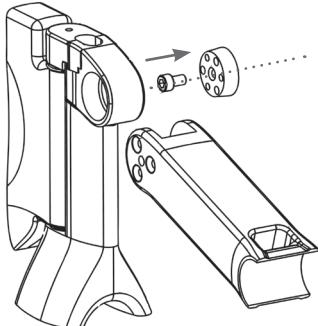

Fig. 5
1. Degrease the cones (1 & 6), the fork head (3) and the stem arm with a dry cloth.
2. Grease the M6 x 10 mm extraction screw (4).
3. Screw in and hand tighten the M6 x 10 mm screw in the left cone. The screw head should bear against the small diameter of the cone (Fig. 5).